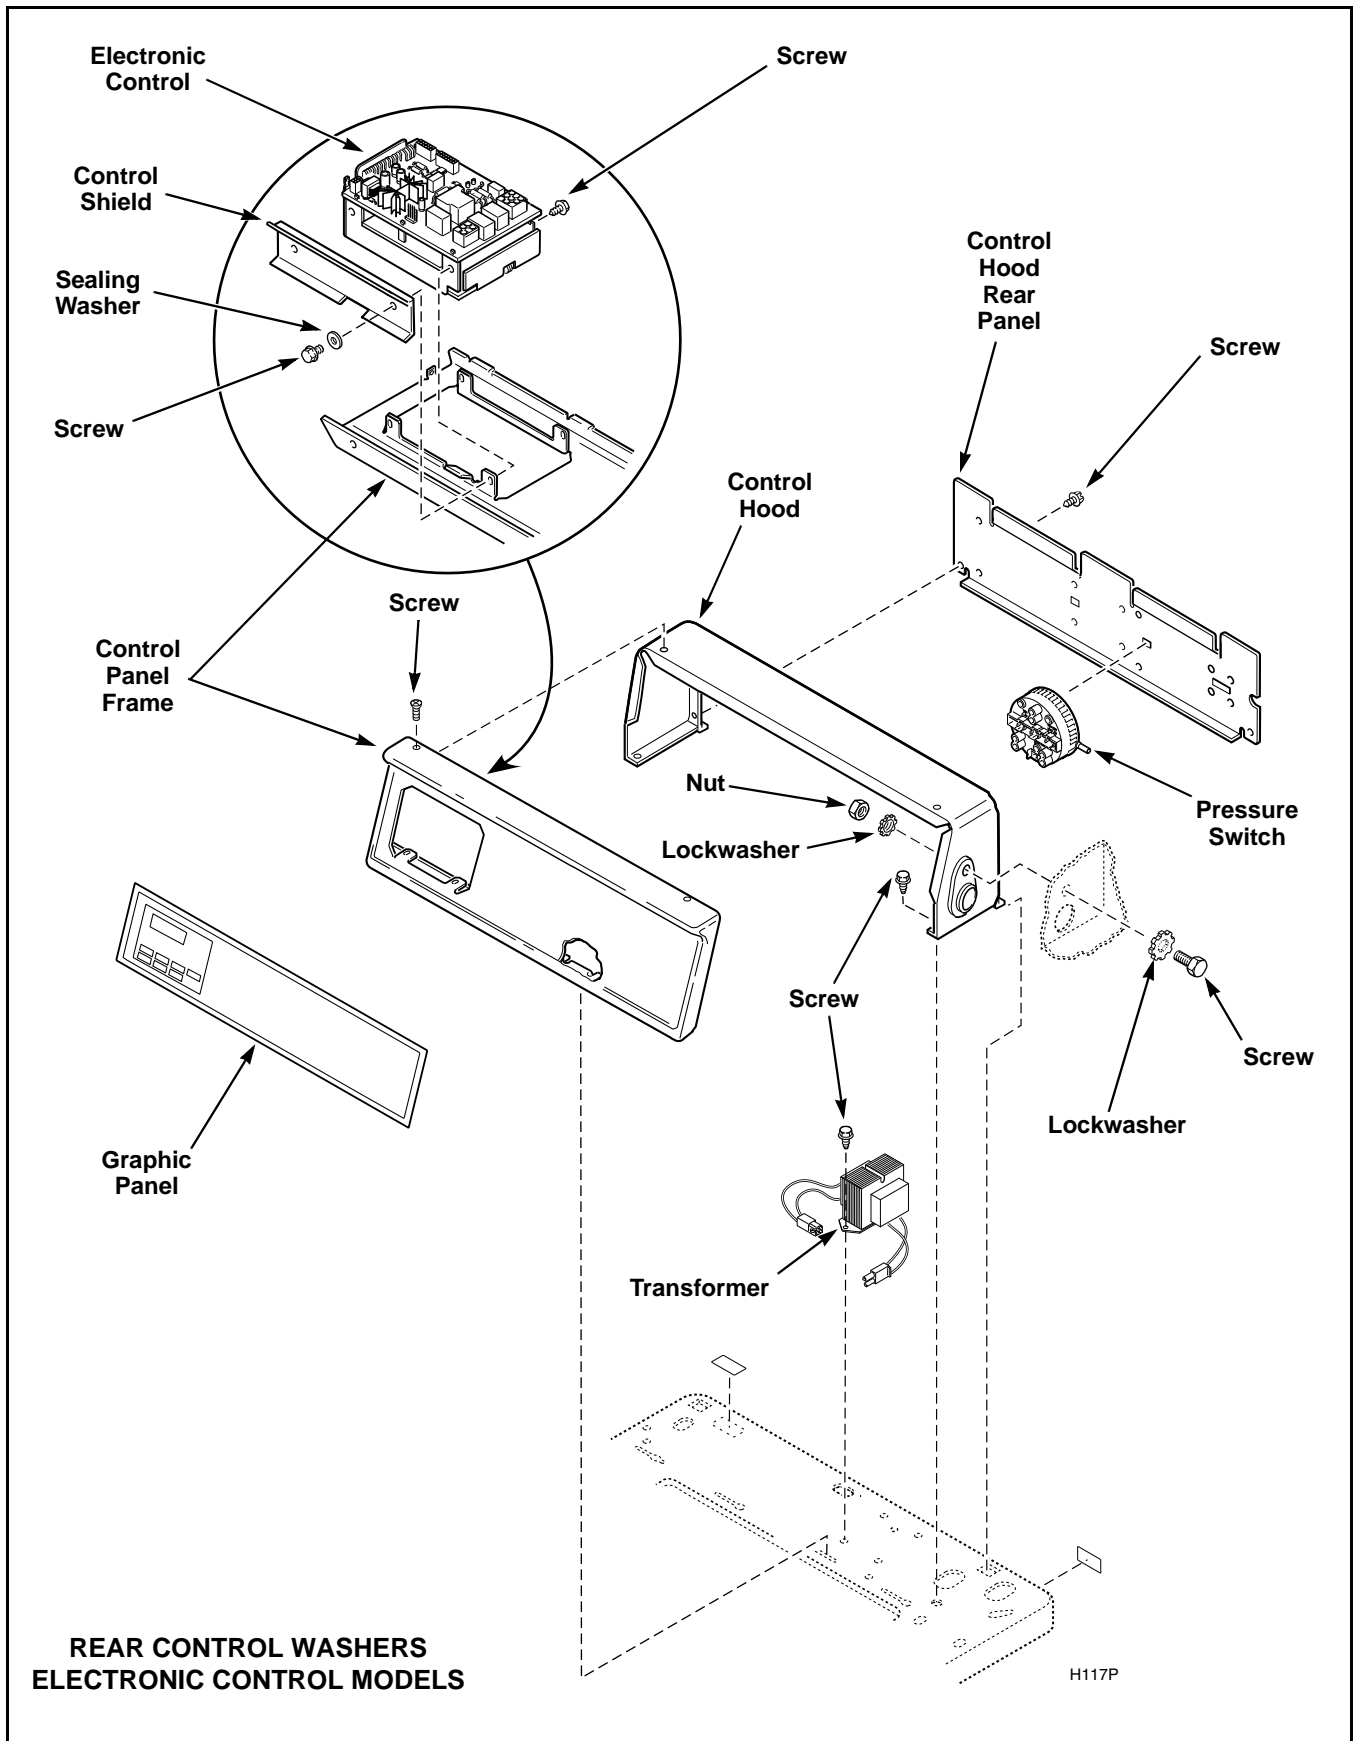

Figure 19
- c. Remove four screws holding electronic control assembly to backside of control panel. Refer to *Figure 19* or *20*.
- e. While holding new control by its metal edges, place control in opening of control panel and fasten control down with four screws. Refer to *Figure 19* or *20*.
NOTE: For proper control alignment, tighten the top two screws first then tighten the bottom screws. *Figure 19* or *20*.
- (1) Once panel overlay is fitted to the front of control panel frame, carefully peel protective backing from the left end of panel overlay and press into place.
- (2) Remove rest of protective backing from panel overlay and press overlay into place on control panel assembly.
- (3) While holding control by its metal edges, place control in opening of control panel and fasten control down with four screws. Refer to *Figure 19*.
NOTE: For proper control alignment, tighten the top two screws first then tighten the bottom screws. Refer to *Figure 19*.